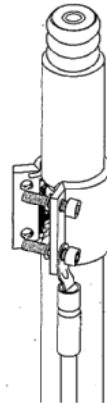

Figure 13
- Remove the protection sheet on the ground kit, clamping the grounding kit around the control cable, and align with striped line as shown in Figure 13